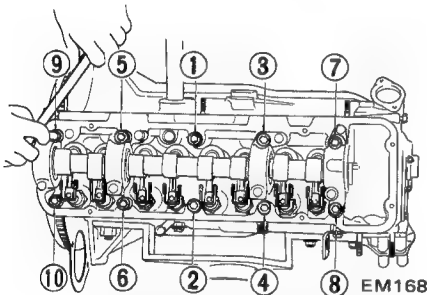

Fig. EM-94 Tightening sequence
- (2) Turn crankshaft until No. 1 piston is at T.D.C. on its compression stroke.
- (3) Make sure that camshaft sprocket location notch and plate oblong groove are aligned at their correct positions.
- (4) When installing cylinder head, make sure that all valves are apart from heads of pistons.
- (5) Do not rotate crankshaft and camshaft separately, because valves will hit heads of pistons.
- (6) Temporarily tighten two bolts (①, ②) shown in Figure EM-94.
22. Finally tighten head bolts to the specified torque in three steps according to the tightening sequence as shown in Figure EM-94.